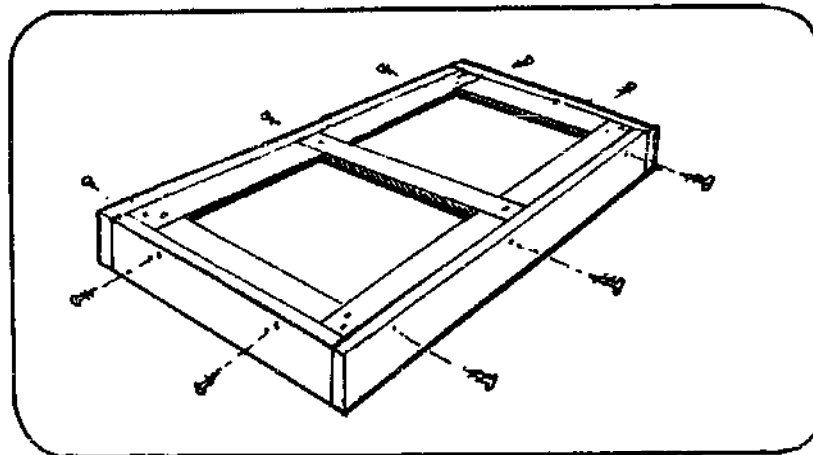

Figure 4
**3.2** Set glazing frame built in Step 2 onto the collector box. Drill pilot holes in side pieces. Screw and glue side pieces to the frame as shown in Figure 4. Put finish nails between screws to strengthen.